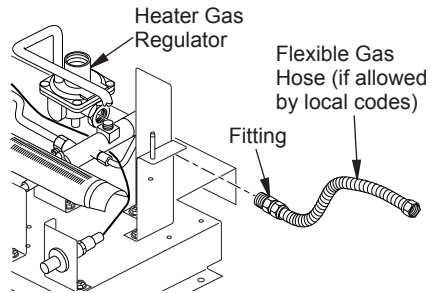
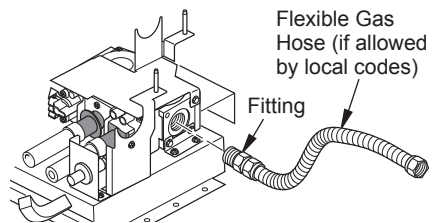

Figure 11 - Attaching Flexible Gas Hose to Heater Gas Regulator (Variable Manually-Controlled Models Only)
Figure 12 - Attaching Flexible Gas Hose to Heater (Remote-Ready Models Only)
1. Apply pipe joint sealant lightly to male threads of gas fitting (not provided). For Variable Manually-Controlled Models connect approved flexible gas hose to gas regulator of heater (see Figure 11). For Remote-Ready Models connect approved flexible gas hose to gas control fitting in heater (see Figure 12). **IMPORTANT:** Hold gas regulator with wrench when connecting flexible gas hose (Variable Manually-Controlled Models Only). Hold gas fitting with wrench when connecting flexible gas hose (Remote-Ready Models Only).